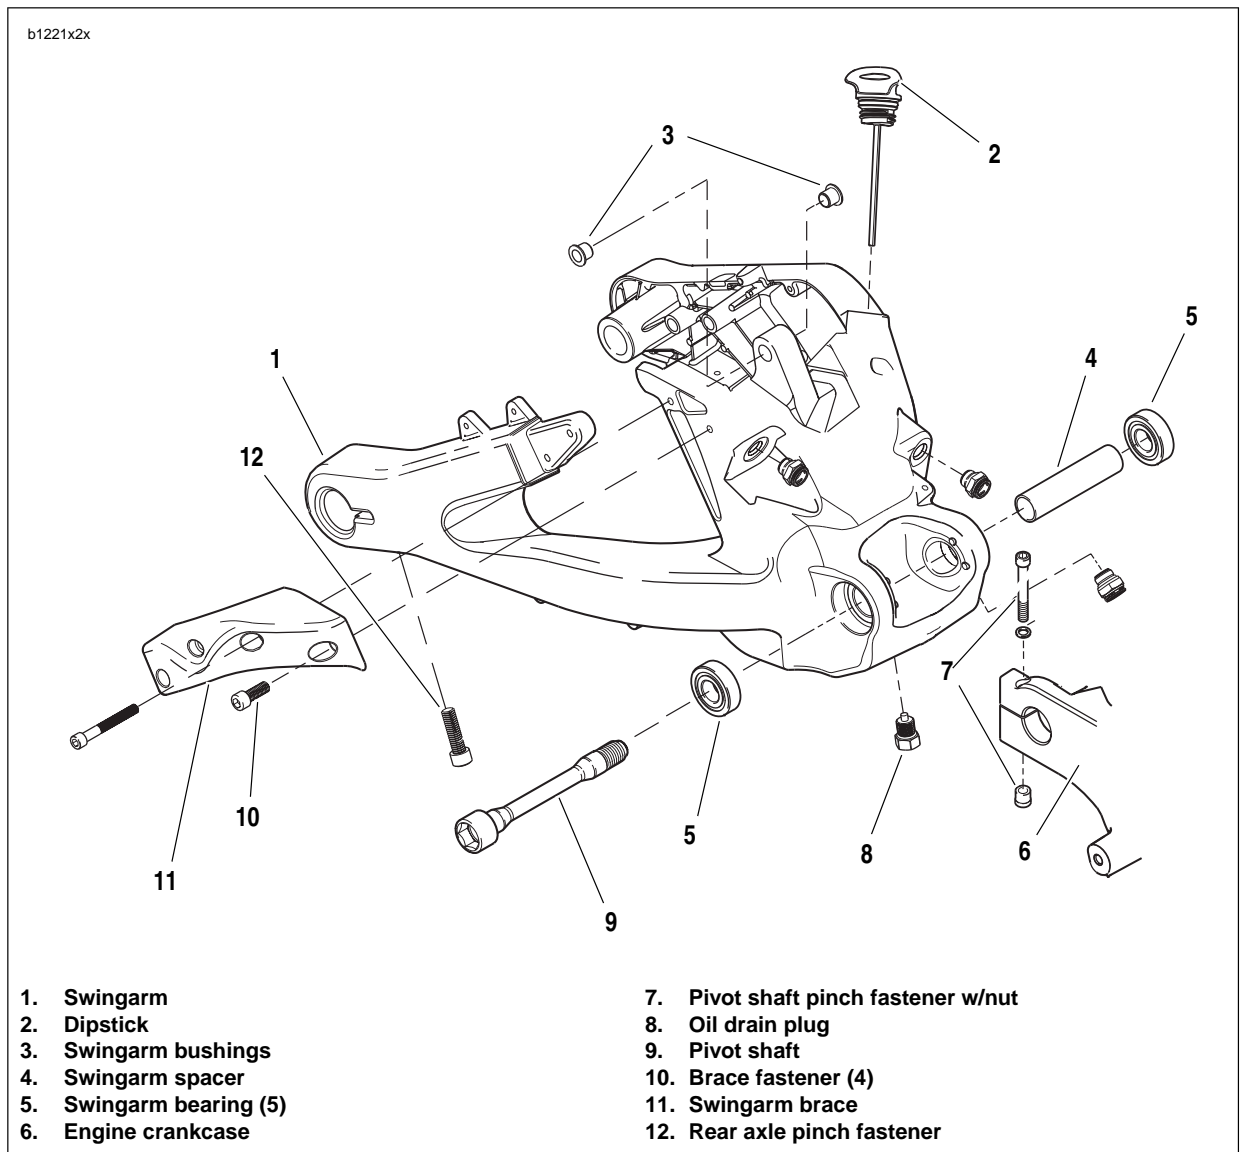
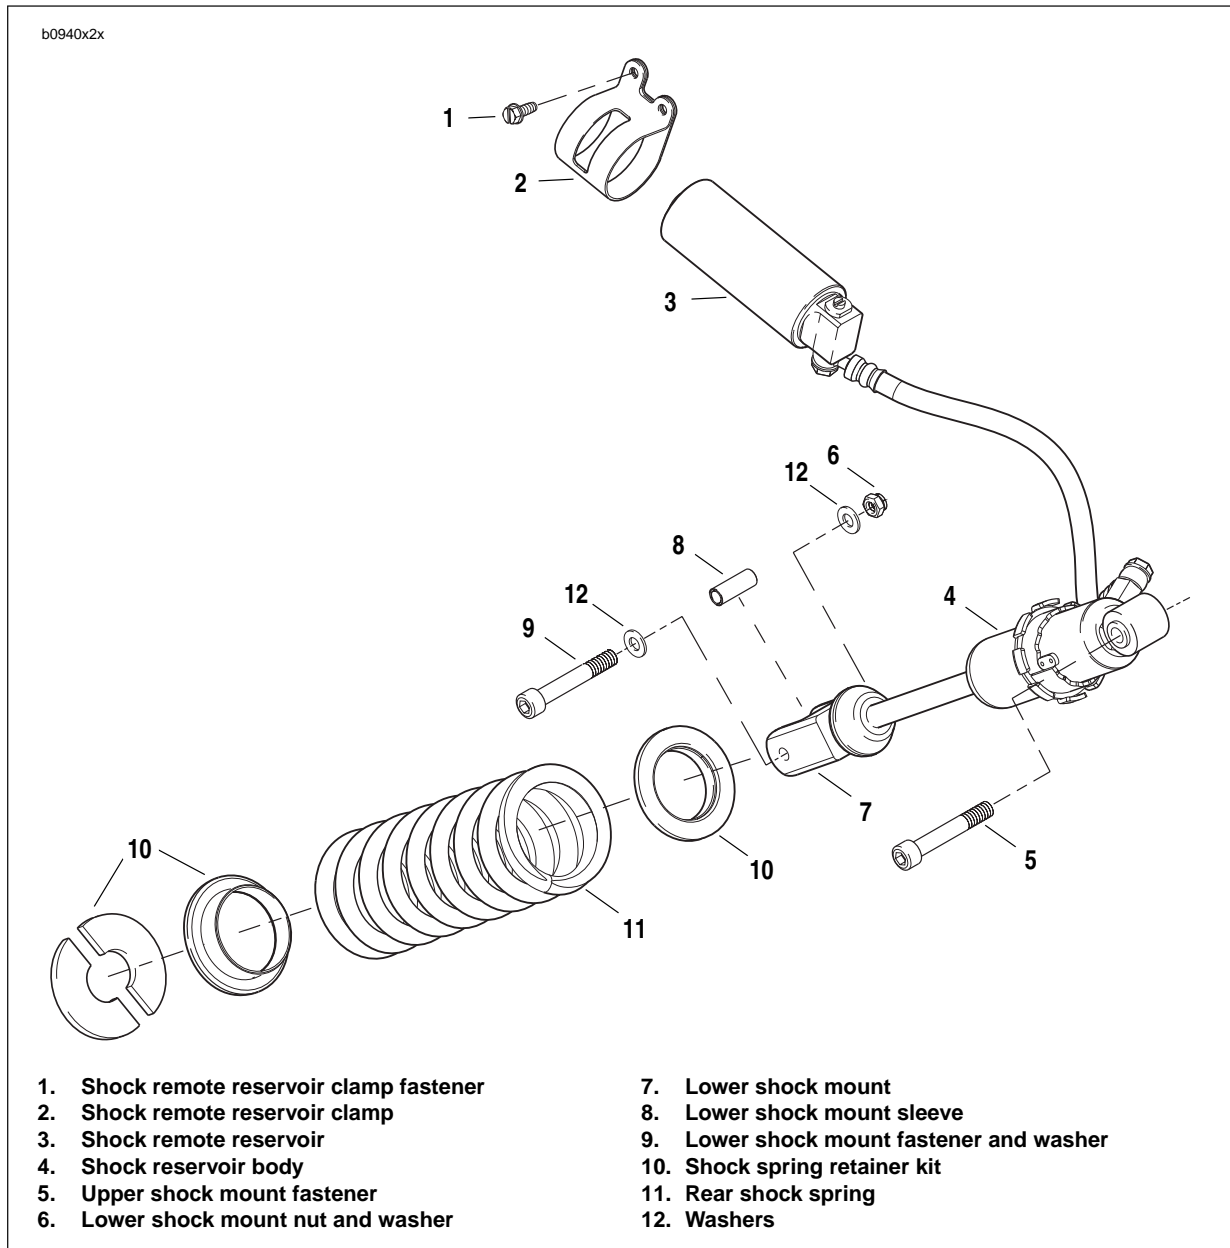

Figure 2-83. Swingarm Assembly
Figure 2-88. Rear Shock Absorber Assembly
4. See Figure 2-83. Remove swingarm brace mounting fasteners (10).
5. Remove swingarm brace (11).
3. See Figure 2-83. Remove oil drain plug (8) and drain oil from swingarm. See 1.6 ENGINE LUBRICATION SYSTEM.
11. See Figure 2-83. Loosen pivot shaft pinch fastener (7).
12. Remove pivot shaft (9) with a special 7/8 in. hex tool located in tool kit.
2. See Figure 2-83. Remove swingarm bearings (5) using slide hammer (SNAP-ON Part No. CJ1275 or equivalent) and 3/4 in. bearing remover and spacer.
3. Remove shock mount bushings (3) and sleeve.
See Figure 2-83. Remove swingarm bearings (5) only if replacement is required. The complete bearing assembly must be replaced as a unit when replacement is necessary. Do not intermix bearing components.
1. See Figure 2-83. Install **new** shock mount bushings (3).
2. Install **new** bearings (5, 9) and spacer (4) with BEARING INSTALLER (Part No. HD-44060) by lightly seating spacer.
4. See Figure 2-83. Install drain plug (8). Tighten to 26-29 ft-lbs (35-39 Nm).
1. See Figure 2-83. Align swingarm (1) in pivot of engine crankcase (6).
2. Install pivot shaft (9) with a special 7/8 in. hex tool located in tool kit, ANTI-SEIZE and tighten to 24-26 ft-lbs (32-35 Nm).
3. Apply LOCTITE 271 (red) and tighten pivot shaft pinch fastener (7) to 17-19 ft-lbs (23-26 Nm).
4. See Figure 2-88. Install lower shock absorber mounting fastener (7) and spacer from shock absorber and swingarm and tighten to 15-17 ft-lbs (20.3-23 Nm).
2. See Figure 2-83. Install swingarm brace (12) with swingarm brace mounting fasteners (11) loosely. Do not tighten.
3. Tighten swingarm brace fasteners (11) to 25-27 ft-lbs (34-37 Nm).
5. Tighten rear axle pinch fastener (13) to 40-45 ft-lbs (54-61 Nm).
5. See Figure 2-88. Remove upper shock (5) and lower shock mount fasteners (6 and 9) and lower shock mount sleeve (8).
6. Remove rear shock reservoir clamp (2).
1. See Figure 2-88. Install upper shock mount and tighten fastener (5) to 48-52 ft-lbs (65-70.5 Nm).
2. Install lower shock mount with fasteners, washers (6, 9, 12) and lower shock mount sleeve (8) and tighten to 15-17 ft-lbs (20.3-23 Nm).
See Figure 2-88. Verify compression adjuster screw is facing up.